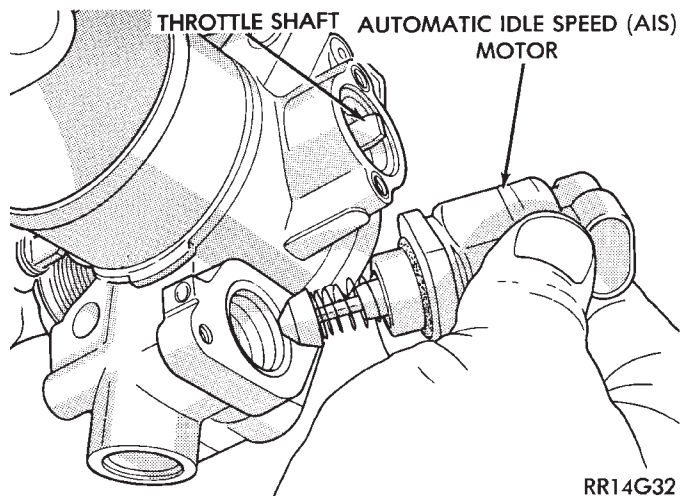

Fig. 5 Servicing Automatic Idle Speed Motor
- (1) Disconnect negative cable from battery.
- (2) Remove electrical connector from automatic idle speed (AIS) motor.
- (3) Remove AIS motor mounting screws (Fig. 5).